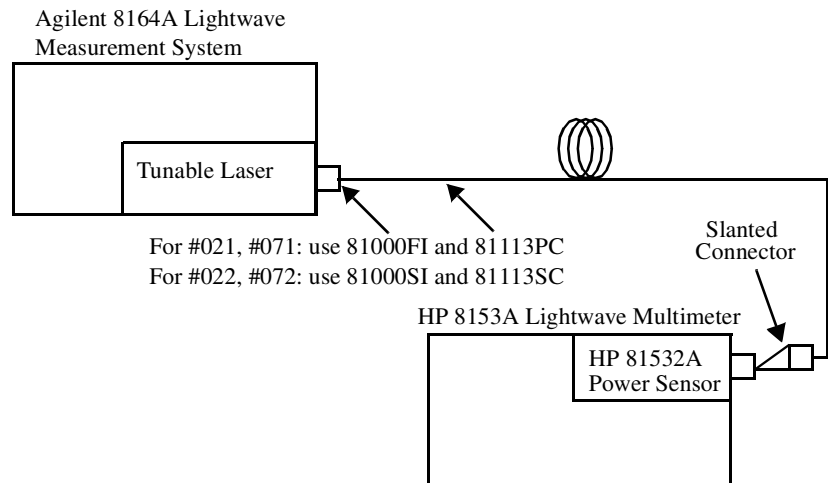

Figure 21 Test Setup for Low Power Linearity Tests
- 1 Set up the equipment as shown in Figure 21.